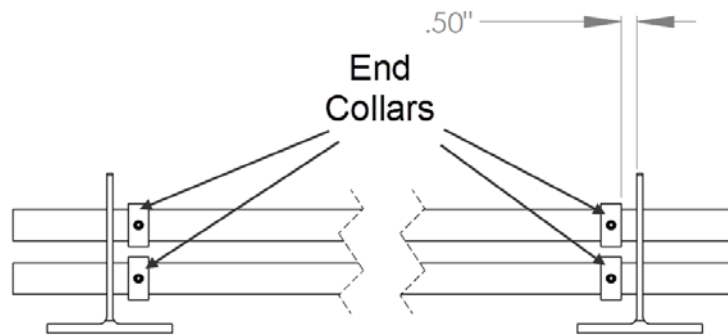

Fig. 1
1. If using on a system with **External Couplings (PP84)**: End Collars should be placed over the end of each run of pipe, on the inside of the outermost brackets (Fig. 1). As the last pipe in the run is installed, the End Collar should be installed. The End Collars should be installed 1/2" from the brackets.